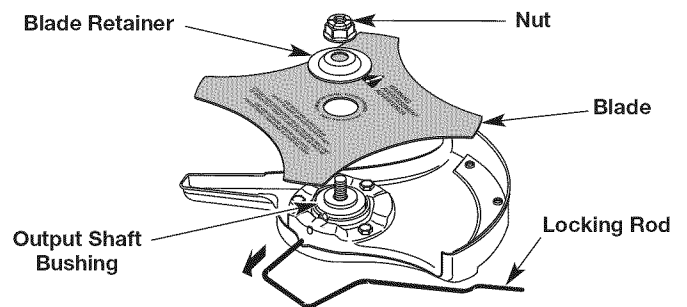
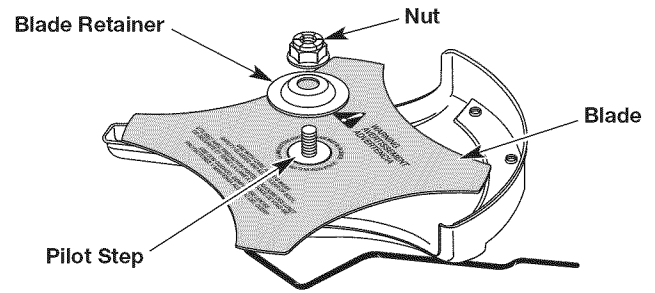

Fig. 15
Fig. 16
4. Remove the locking rod (Fig. 15).
5. Remove the nut, blade retainer and blade (Fig. 15).
1. Put the blade on the output shaft bushing (Fig. 15). Make sure the blade is centered on the pilot step (Fig. 16). The blade should sit flat against the output shaft bushing.
4. While holding the locking rod in place, put the blade retainer and nut on the output shaft (Fig. 16).